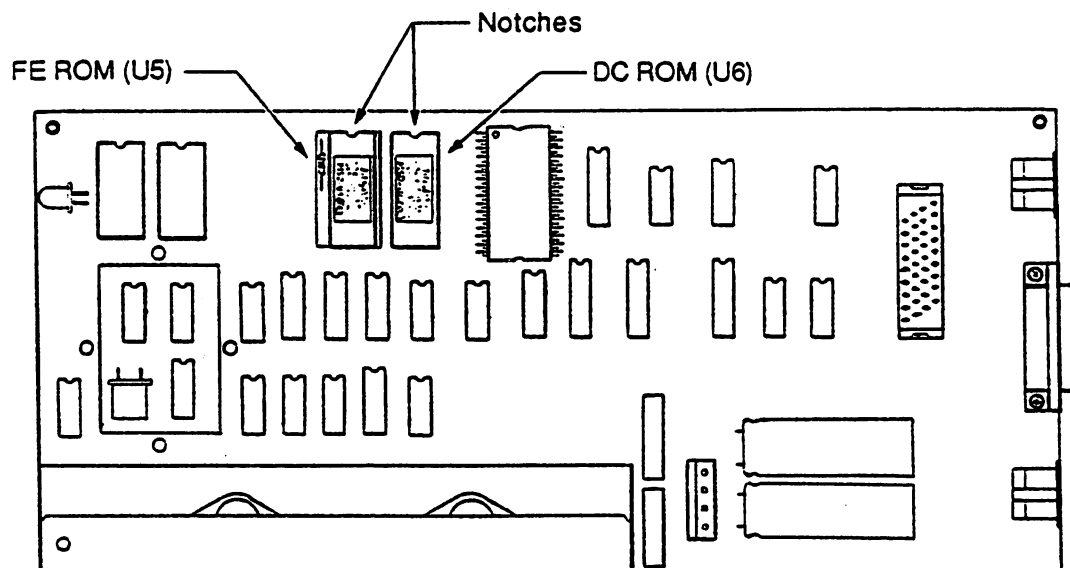

Figure 2 MSD DOS ROM LOCATIONS
7. Locate the "FE" and "DC" DOS ROMs on the MSD circuit board using the diagram in Figure 2 below. The FE ROM is U5 and the DC ROM is U6 (The designations U5 and U6 should be marked on the MSD circuit board near the ROMs). For future reference, mark the ROMs "DC" and "FE" as they are removed (if they are not already marked as such).
9. Remove the JiffyDOS ROM marked **MSD-U6 (DC)** from its packing. This is the stand-alone ROM without the adapter board and switch assembly.
11. "Test fit" the JiffyDOS MSD-U6 (DC) ROM on top of the proper DOS ROM socket (U6). SEE FIGURE 2 ABOVE.
**MAKE SURE THAT THE NOTCH ON THE JIFFYDOS ROM IS FACING THE TOP OF THE DRIVE AS SHOWN IN FIGURE 2 ABOVE.**
12. With all pins on the JiffyDOS ROM properly aligned with the socket, and with the ROM notch facing upward as shown in Figure 2, carefully press the ROM into the socket using finger pressure until it is fully seated.
13. Remove the JiffyDOS ROM marked MSD-U5 (FE) from its packing. This is the ROM which includes the adapter board and switch assembly.
15. "Test fit" the JiffyDOS MSD-U5 (FE) ROM on top of the proper DOS ROM socket (U5). SEE FIGURE 2 ON THE PREVIOUS PAGE.
MAKE SURE THAT THE NOTCH ON THE JIFFYDOS ROM IS FACING THE TOP OF THE DRIVE AS SHOWN IN FIGURE 2 ON THE PREVIOUS PAGE.
16. With all pins on the JiffyDOS ROM properly aligned with the socket, and with the ROM notch facing upward as shown in Figure 2, carefully press the ROM into the socket using finger pressure until it is fully seated.
17. Before proceeding, MAKE SURE that the JiffyDOS DC and FE ROMs are in the proper sockets and that the ROM notches face the top of the disk drive. REFER TO THE DIAGRAM IN FIGURE 2 ON THE PREVIOUS PAGE.